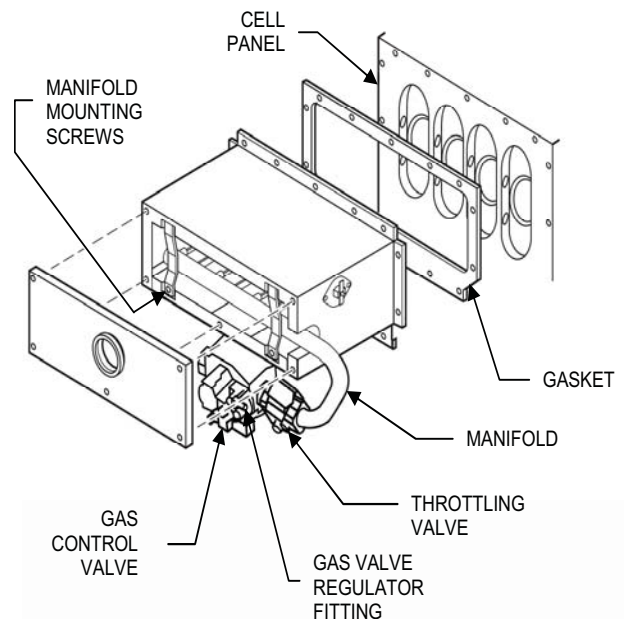
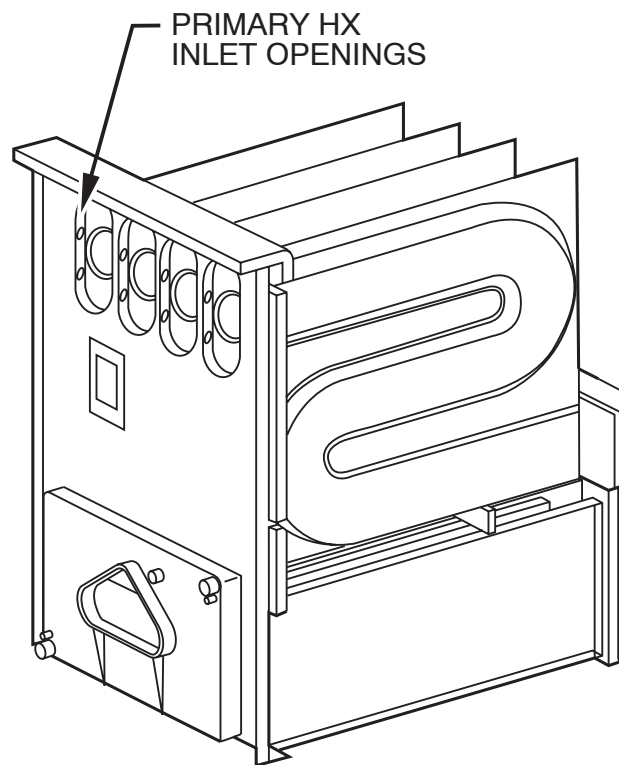

**Fig. 6 - Burner Box Assembly**
**Fig. 8 - Cleaning Inlet Openings of Primary Heat Exchangers**
9. Remove screws that secure manifold to burner box. (See Fig. 6.)
10. Remove screws attaching burner box to cell panel. (See Fig. 6.)
11. Clean heat exchanger openings with a vacuum and a soft brush. (See Fig. 8.) **NOTE:** After cleaning, inspect the heat exchangers to ensure they are free of all foreign objects that may restrict flow of combustion products.
12. Reverse items 4 through 10 for reassembly.
**NOTE:** Be sure burner box gasket is installed between burner box and cell panel. (See Fig. 6.) If gasket is damaged, replace it.